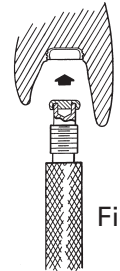
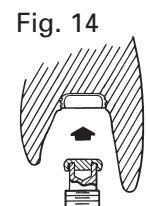

Fig. 13
Fig. 14
12. The Locator Male Seating Tool is used to firmly push a Locator Replacement Male into the empty metal denture cap (Fig. 13). The replacement male must seat securely into place, level with the rim of the cap (Fig. 14).